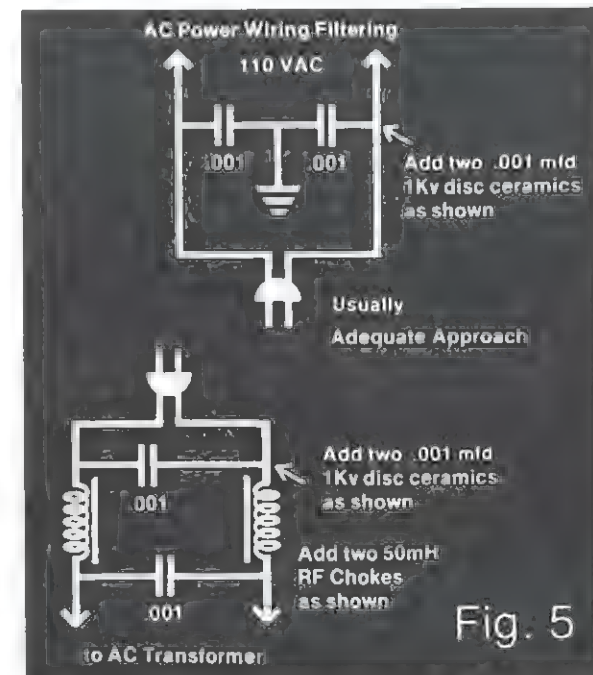

Fig. 5
- An AC power line RF filter should be installed to determine if the RF from the transmitter is entering the TV via the power cord. (A line filter may be either purchased or one may be constructed by following the schematic in Figure 5.)
1. RF may be entering the audio device through the AC power line. Several power line filters are commercially available. If necessary, a power line filter like the one shown in Figure 5 may be constructed, placing the filter as close as possible to the point where the AC cord enters the amplifier.